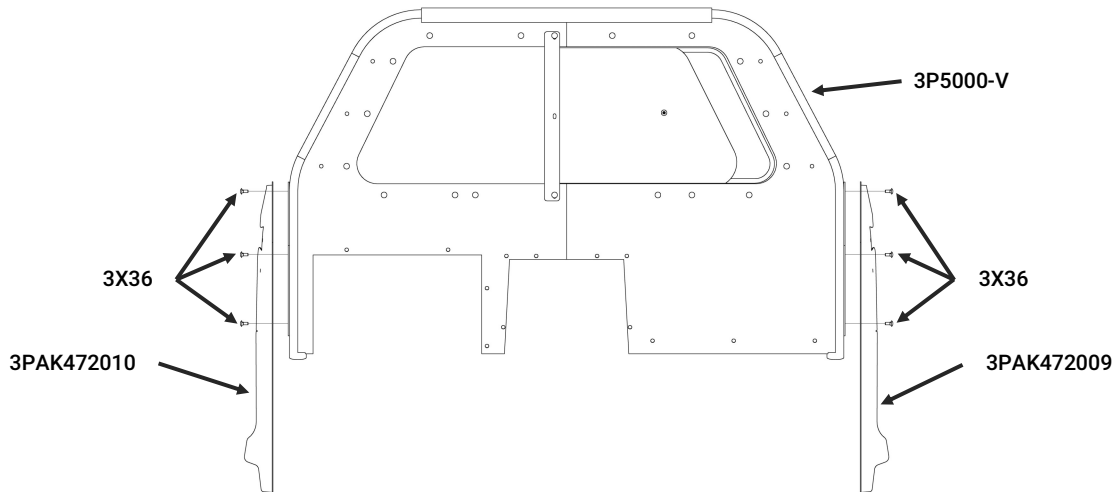

Figure 4
- A. Prepare (3) carriage bolts [3X36] and (3) whiz nuts [3X16Z] on each side of the vehicle.
- C. Loosely secure in place with the fasteners prepared in Step A. Install the fasteners such that the smooth head of the carriage bolt is facing towards the outside of the vehicle (Fig 4). The fasteners will be tightened in a later section.